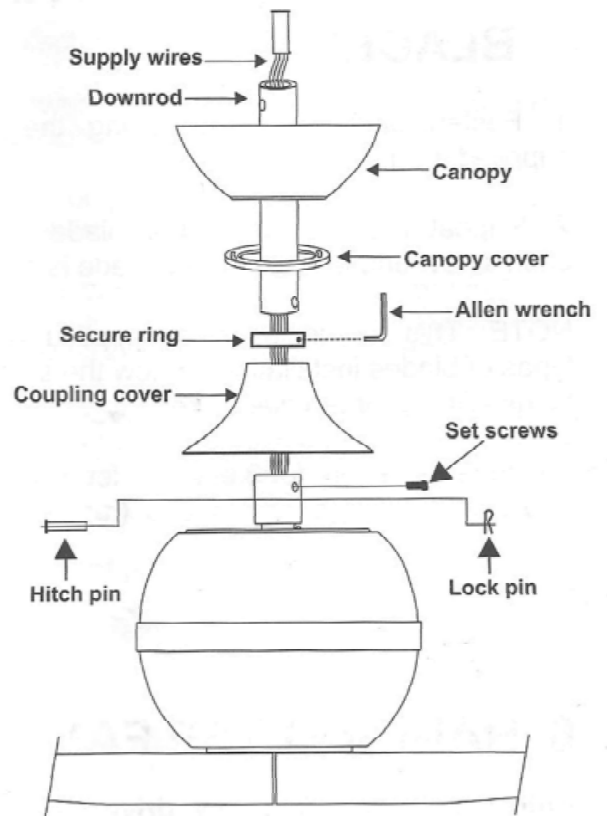

Figure 9
5. Loosen the two set screws and remove the hitch pin and lock pin from the central shaft/top coupling of the motor assembly. Doing so will allow the down rod to enter the central shaft. (Fig.9)